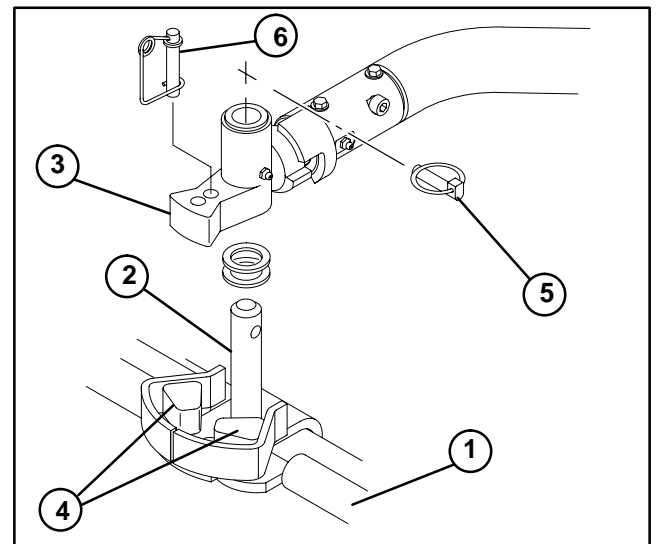

Figure 29
3. Install shims as required on pivot shaft of each cutting unit carrier frame (Fig. 29). Use enough shims (0 to 2) to remove any vertical play, but still allow free rotation when lynch pin (5) is installed.
4. Insert the pivot shaft of the carrier frame into the mounting hole at the end of the pivot knuckle (Fig. 29).
5. Guide the pivot knuckle in place between the two rubber centering stops on the carrier frame (Fig. 29).
6. Insert the lynch pin into the cross hole on the pivot shaft (Fig. 29). (If pin does not fit, remove one of the shims from the pivot shaft.)